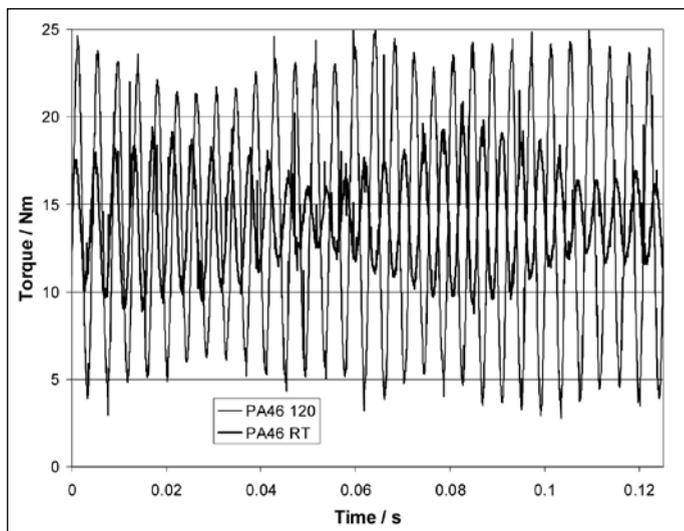

Figure 11—Torque data for PA46/steel gear combination.
**PA46/steel combination.** The torque and transmission error data are shown (Figs. 11–12).